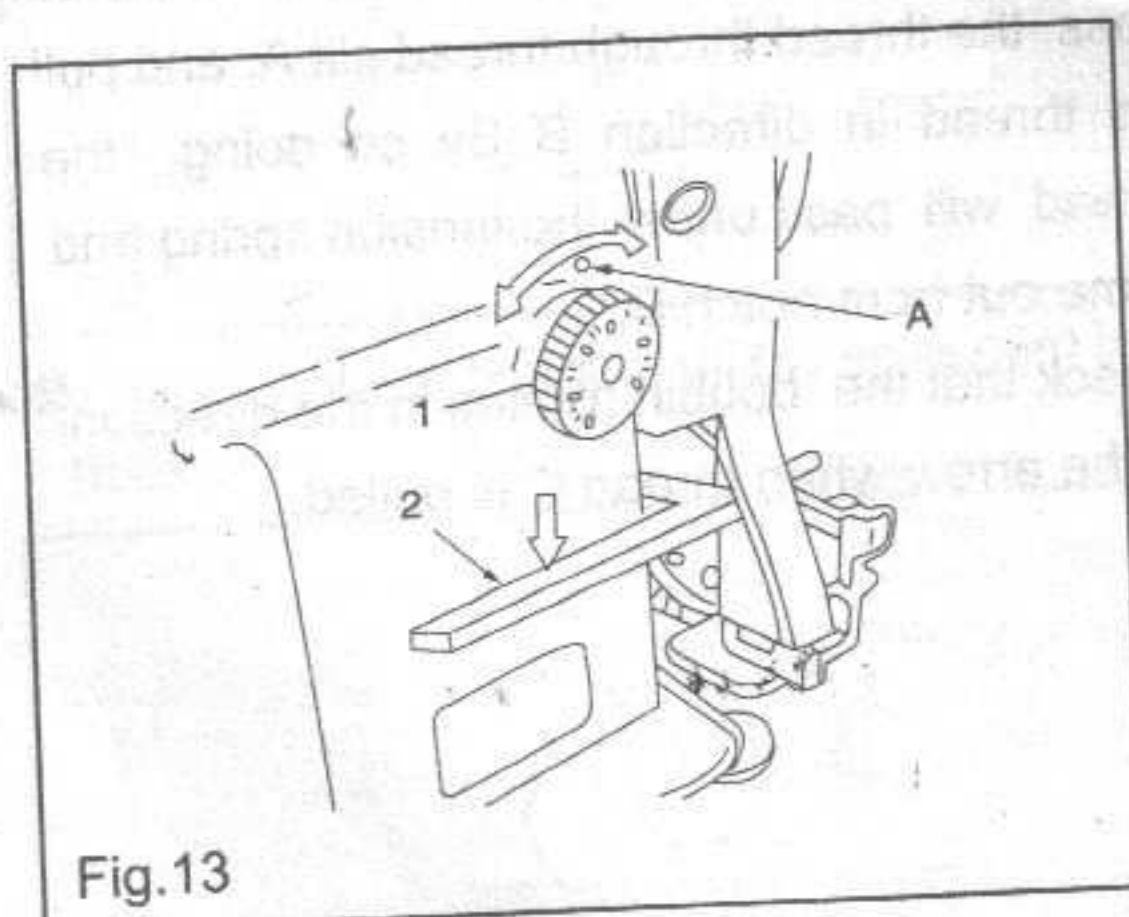

Fig.13
7. ADJUSTING THE STITCH LENGTH (FIG.13)